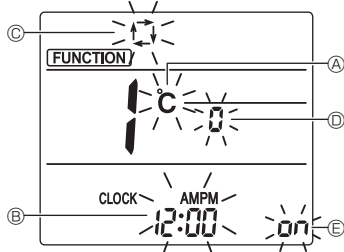

Fig. 4-11
The Screen display setting screen will be displayed. (Fig. 4-11)
4.12.2. Changing the temperature unit (Fig. 4-11 Ⓐ)
- Press the **TEMP** button ⑤.
- Each time the **TEMP** button ⑤ is pressed, the setting switches between **°C** and **°F**.
4.12.3. Changing the time display (Fig. 4-11 Ⓑ)
- Press the **TIME** button ⑥.
- Each time the **TIME** button ⑥ is pressed, the setting switches between **12:00^{AMPM}** and **24:00^{AMPM}**.
4.12.4. Changing the AUTO mode (Fig. 4-11 Ⓒ)
- Press the **MODE** button ⑦.
- Each time the **MODE** button ⑦ is pressed, the setting switches between **Ⓜ** and **ⓂⓂ**.
4.12.5. Changing the pair No. (Fig. 4-11 Ⓓ)
- Press the **UP** button ④.
- Each time the **UP** button ④ is pressed, the pair No. 0-3 changes.